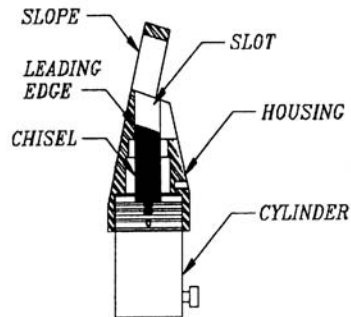

Figure 7
- 5. Connect the quick disconnect (10) to a hydraulic pump using a 10,000 PSI hydraulic hose. Refer to Power Requirements on Page 3 for appropriate hose and pump.
- 7. Place the housing (1) on the hydraulic cylinder (9). The chisel (4) will project into the housing. Make sure that the longest edge of the chisel is on the same side as the slope of the housing (1). See Figure 7.
- 8. Completely thread the housing onto the cylinder while holding the cylinder extended. Back the housing off one full turn.* Lock in place by inserting the set screw (2) on the side of the housing and tightening with the Allen Wrench (3).